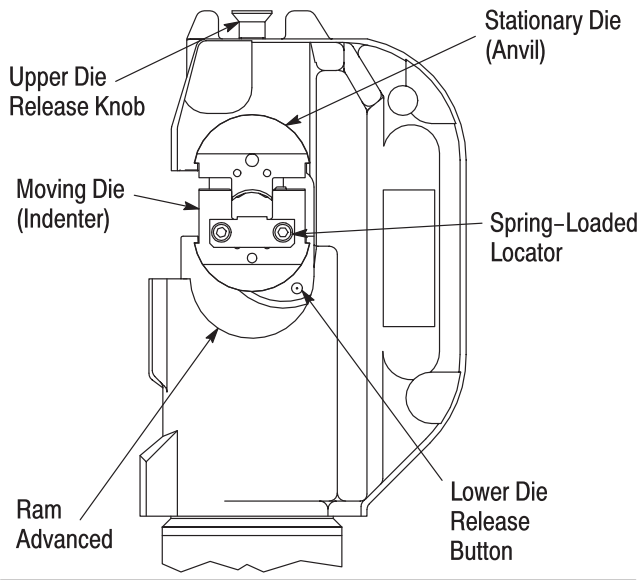

Figure 2
**2. DIE INSTALLATION AND REMOVAL** (Figure 2)